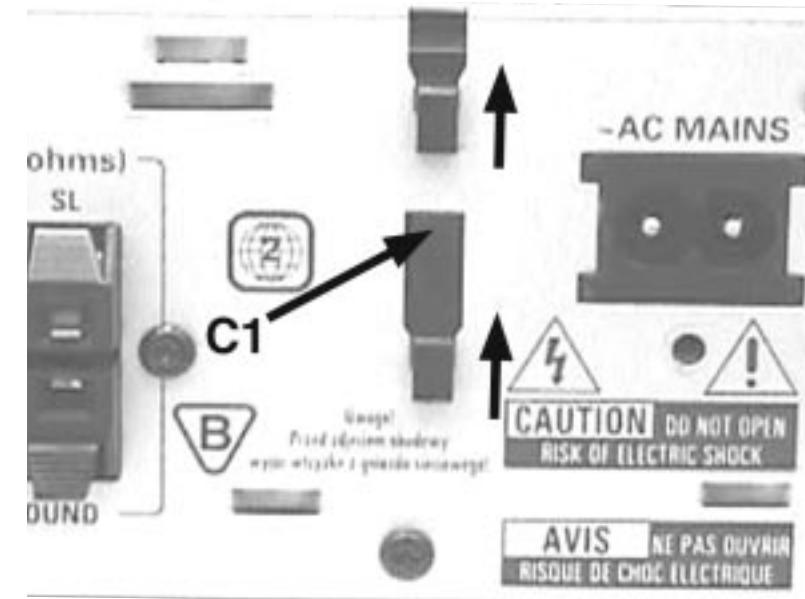

Figure 3
- 3) Remove the Bracket PCB Mains (pos 259) by pressing the catch C1 inward and slide it up in the direction as shown in Figure 3.